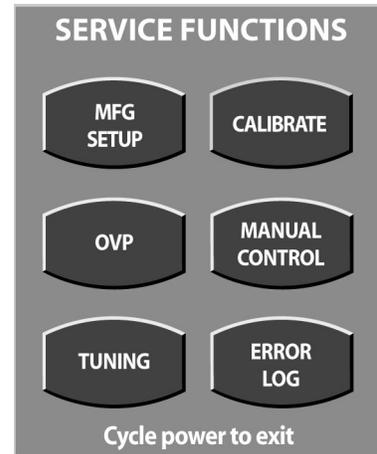

Figure 7.2 Service Functions Screen
2. When the Service Functions screen appears (see figure 7.2), press Calibrate.